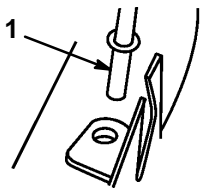

Figure 37
- 5. Insert the chute support rod through the hole in the right side of the deck (Fig. 37).